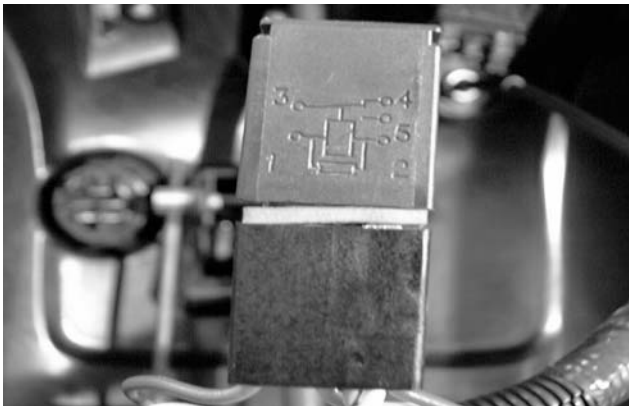

Figure 9-91
2. Remove the PTO relay from the wiring harness connector. See Figure 9-91.